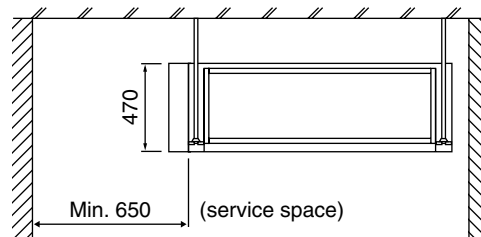

Fig. 1 (length : mm)
- (1) Select an installation site where the following conditions are fulfilled and that meets with your customer's approval.
- Where sufficient clearance for maintenance and service can be ensured. **(Refer to Fig. 1)**